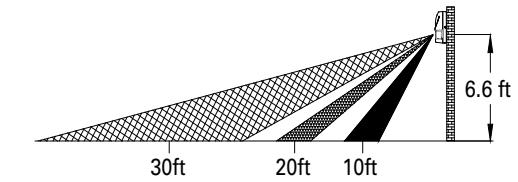

Figure 4a
2. Note: Use the 1st mounting hole positions for corner mounting installation, and use the 2nd mounting hole positions for flat wall installation. (see FIGURE 4a & 4b)